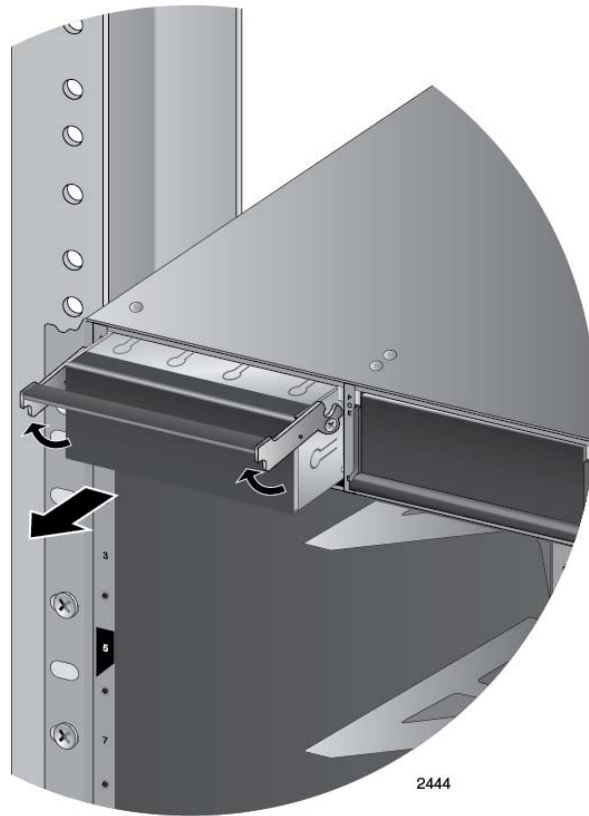

Figure 62. Removing the Blank Slot Cover from Power Supply Slot A
2. Raise the handle on the blank panel covering the selected slot and slide the panel from the chassis. Figure 62 on page 138 illustrates the removal of the blank panel from slot A.